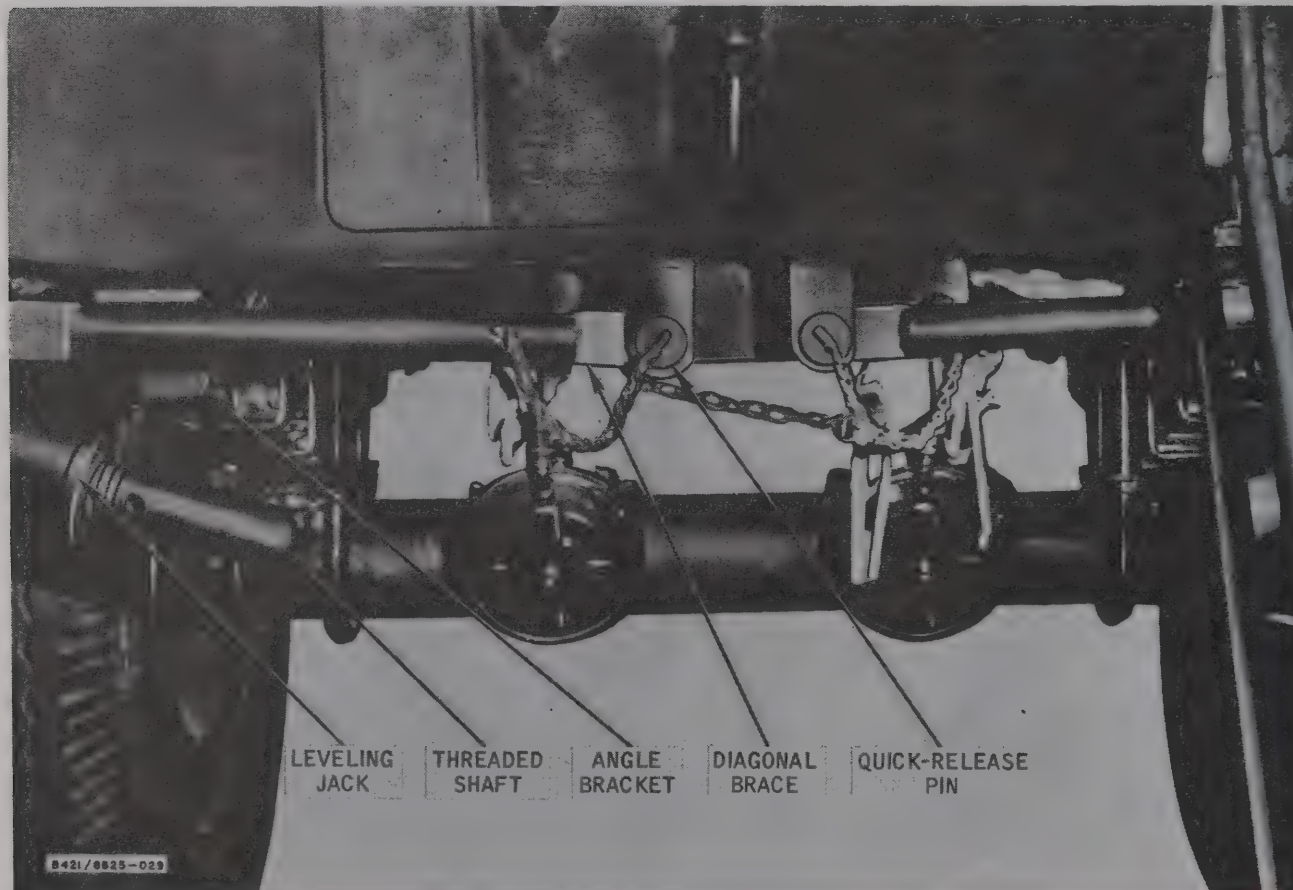

Figure 2-7. Adjustment of Leveling Jack
n. Remove the rear quick release pin holding the side brace and allow the side brace to swing down from its stowage position. Attach the side brace to the angle bracket of the leveling jack with the quick release pin (fig. 2-7).